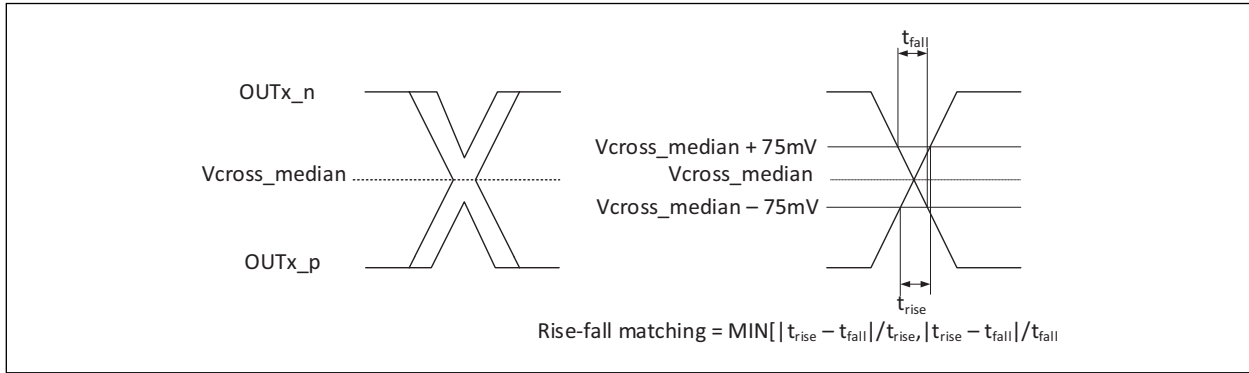

**FIGURE 1-1:** Single-Ended Measurement Points for Absolute Cross Point and Swing.
**4:** Measured at crossing point where the instantaneous voltage value of the rising edge of OUTx\_p equals the falling edge of OUTx\_n. See Figure 1-1.
**5:** Refers to the total variation from the lowest crossing point to the highest, regardless of which edge is crossing. Refers to all crossing points for this measurement. See Figure 1-1.
**6:** Defined as the maximum instantaneous voltage including overshoot. See Figure 1-1.
**7:** Defined as the minimum instantaneous voltage including undershoot. See Figure 1-1.